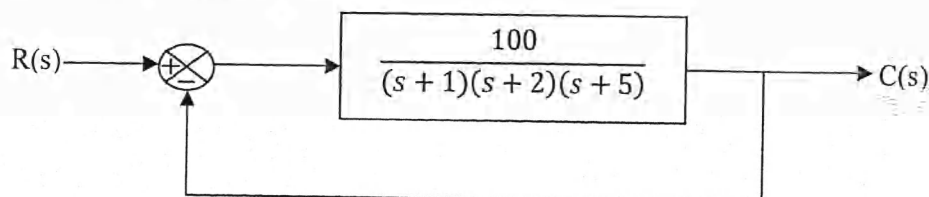

Fig. 2
- Sketch the Nyquist plot for the system in Fig. 2 and determine the gain margin, phase margin and stability of the system. [5]